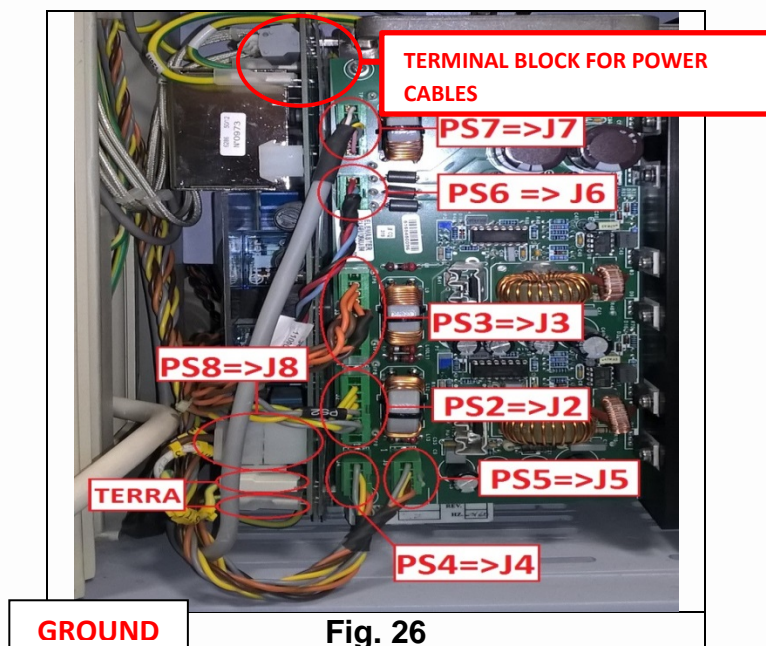

Fig. 26
26. Connect following connectors: PS2, PS3, PS4, PS5, PS6, PS7, PS8 and the ground cables below PS8 (**Fig. 26**).